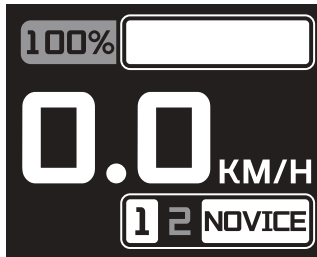

Figure 4.3.3.2
(7) Novice Mode Display: Refer to Figure 4.3.3.2